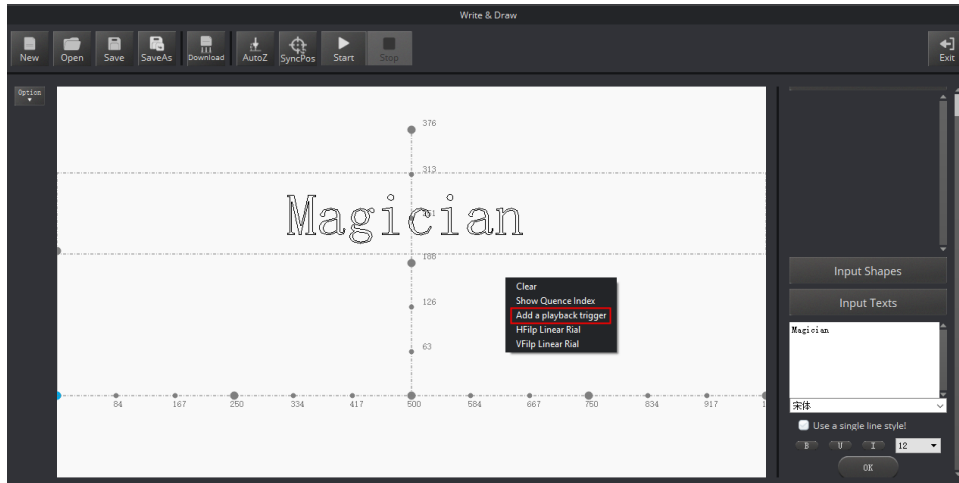

Figure 5.198 Set trigger point
Step 6 (Optional) Right-click **Add a playback trigger** on the **Write&Draw** page to set trigger points, as shown in Figure 5.198.